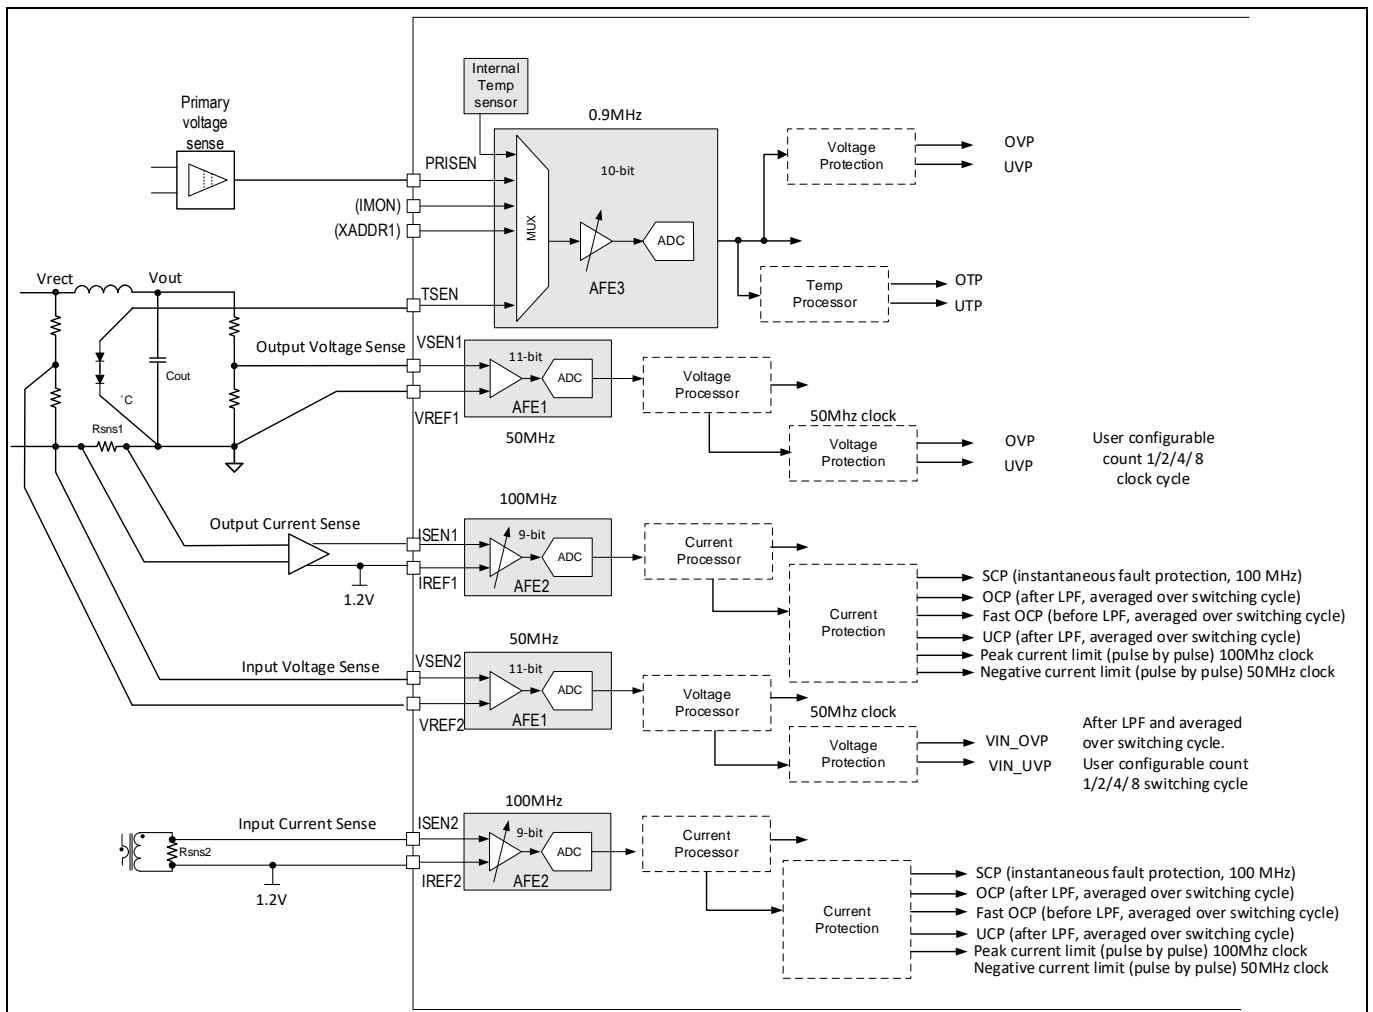

Figure 33 Protection block diagram
The hardware (HW) protection block diagram is shown in **Figure 33**. The controller implements all the fault protections without the need of using external comparators.